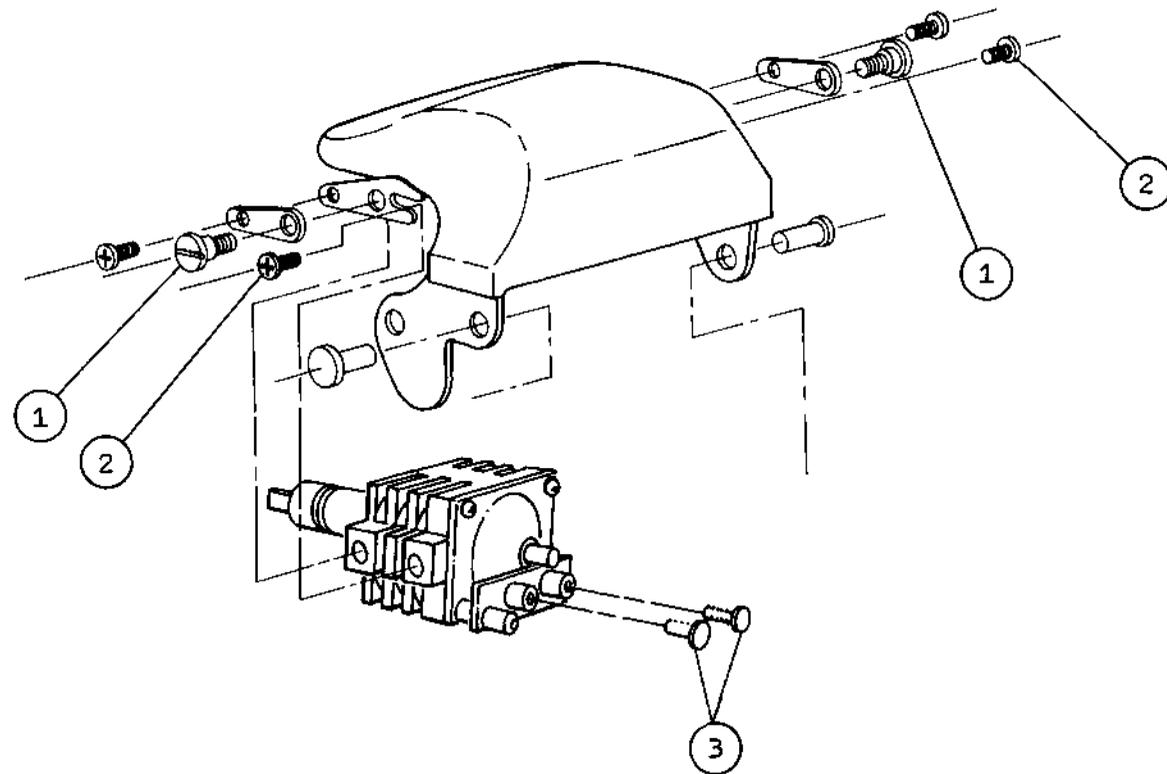

Figure 4-14 Print Hammer Disassembly
- d. Raise the hammer cover assembly (Figure 4-14).
- e. Remove four screws (Items 1 & 2) which secure the hammer to the hammer cover (Figure 4-14).
- f. Remove two terminal head screws (Item 3) illustrated in Figure 4-14.